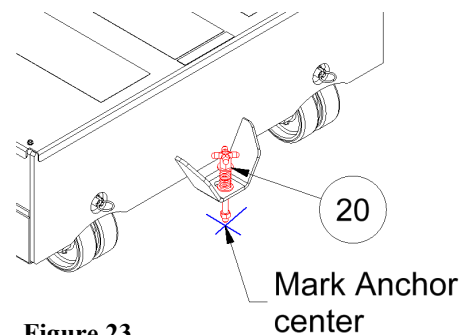

Figure 23
11. Install the rear Tie Down Bolt, item 20, into the anchor hole on the back of the unit frame. Mark the center of the Anchor on the floor as shown in figure 23.